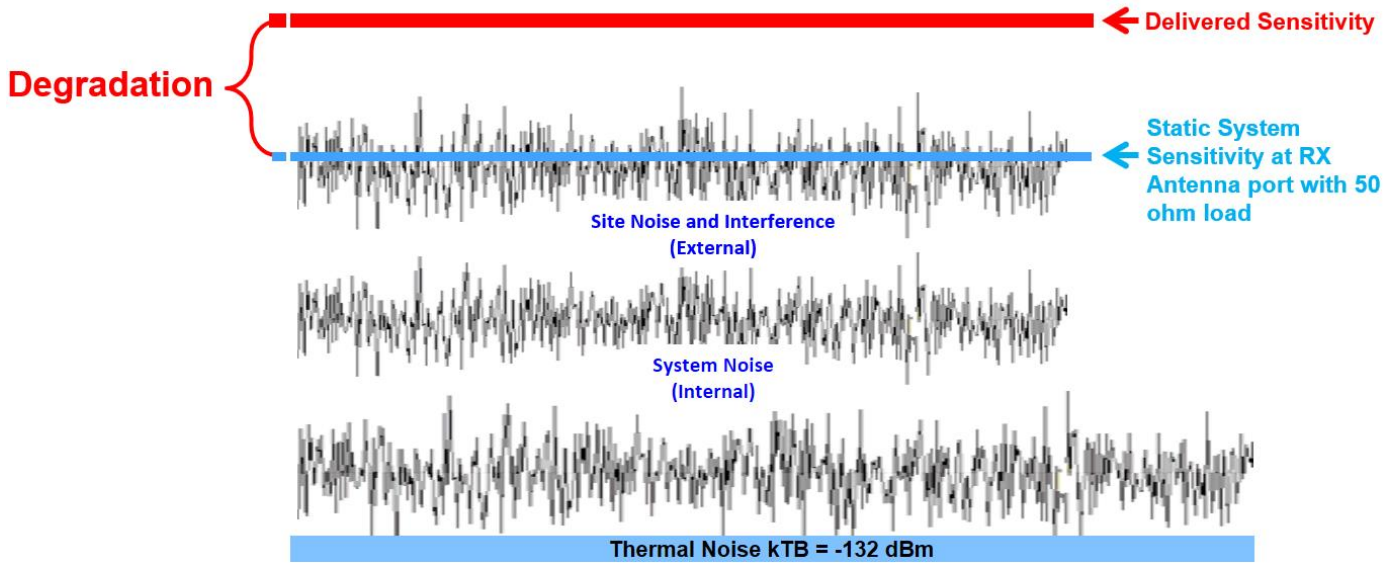

Figure 4: Degradation caused by External noise and Interference
- **Degradation** – Sensitivity is established within the RF distribution system but can be degraded when influenced by externally injected noise and interference. The external noise or interference is added to the noise within the receive system and can only deteriorate the overall sensitivity. *Figure 4* shows the effects of external noise on the delivered sensitivity. When the external noise is combined with the internal noise the new composite noise floor now determines the delivered sensitivity. The
Delivered Sensitivity – Delivered sensitivity relates to the sensitivity as seen by the companion receiver. For an infrastructure receiver, the delivered sensitivity is focused on the sensitivity the subscriber will see. *Figure 4* shows the components of delivered sensitivity.